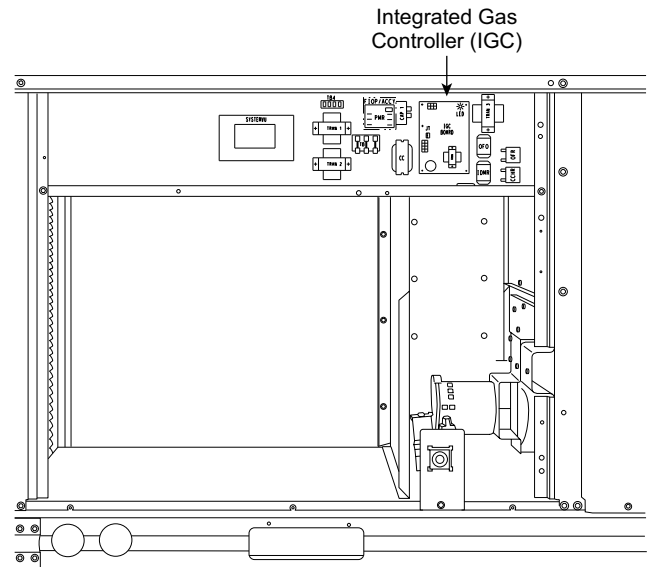
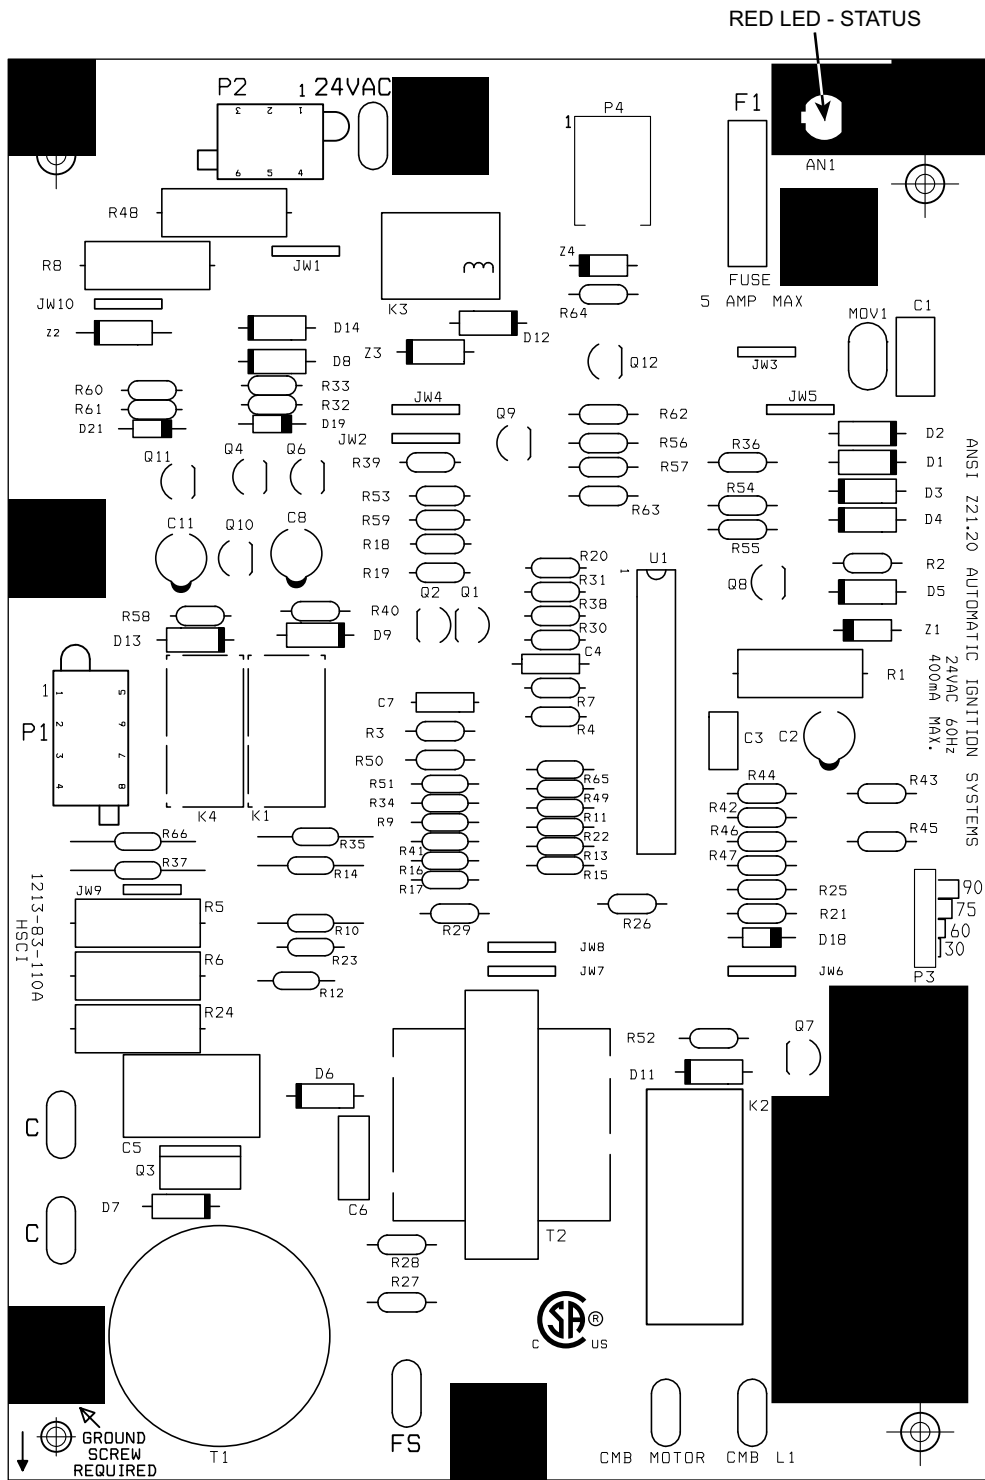

Fig. 54 — Unit Control Box/IGC Location
Fig. 57 — Integrated Gas Control (IGC) Board
8. Remove igniter wires and sensor wires at the Integrated Gas Unit Controller (IGC). (See Fig. 54.)
Unit is equipped with a direct spark ignition 100% lockout system. The Integrated Gas Unit Controller (IGC) is located in the control box (see Fig. 54). The IGC contains a self-diagnostic LED (light-emitting diode). A single LED (see Fig. 57) on the IGC provides a visual display of operational or sequential problems when the power supply is uninterrupted. When a break in power occurs, the IGC will be reset (resulting in a loss of fault history) and the indoor (evaporator) fan ON/OFF times will be reset. The LED error code can be observed through the viewport. During servicing, refer to the label on the control box cover or Table 12 for an explanation of LED error code descriptions.